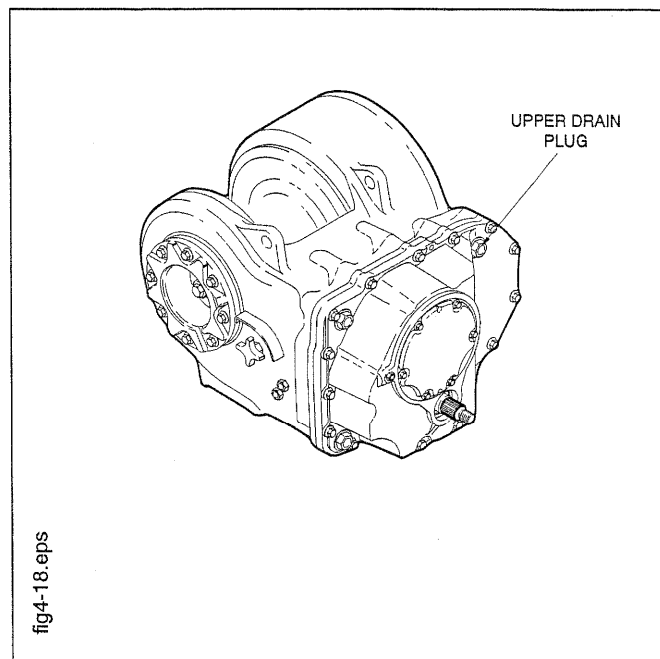

Figure 4-18 Hydraulic Fluid Bleed Port
2. Before starting the skidder's engine, check the hydraulic oil level, and add oil if required. Remove the upper plug on the winch front cover to allow air to escape while the system is filling. See Fig. 4-18.